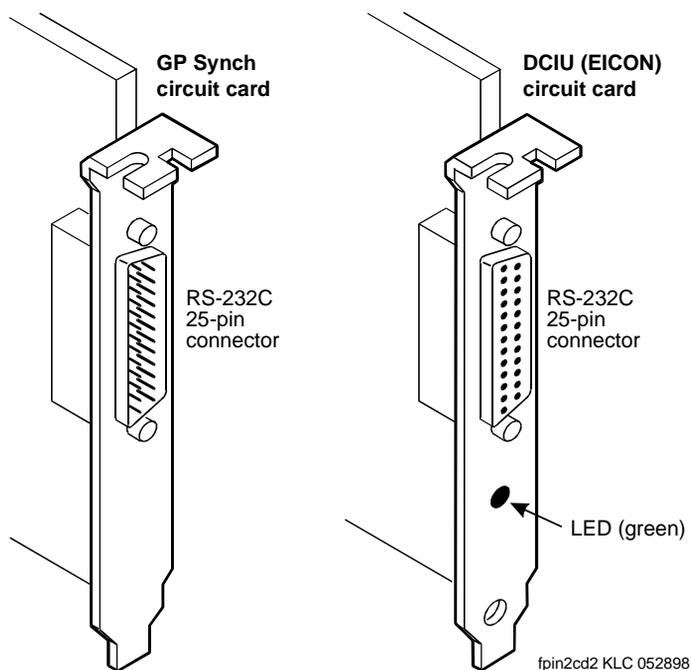

Figure 7-18. GP Synchron and DCIU (EICON) Faceplates
4. Use Figure 7-18 on page 7-30 to determine which card is installed.